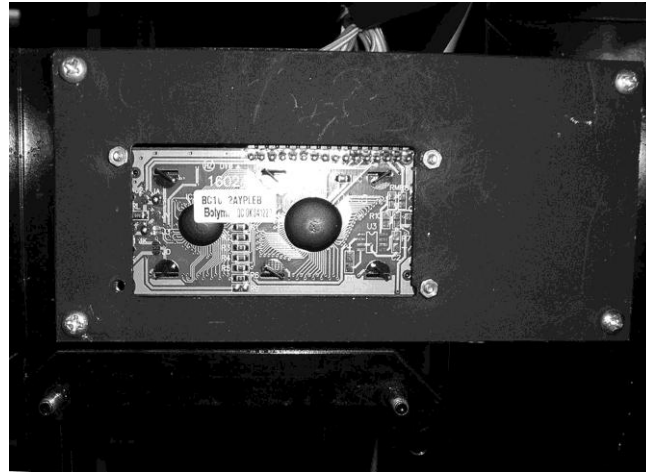

Figure 13.
10. The Retrofit display board can now be installed. With the display cable towards the top of the panel, screw in the four screws from original display board. See Figure 13.